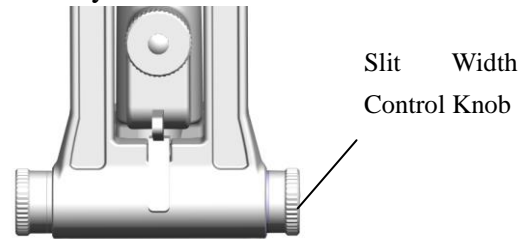
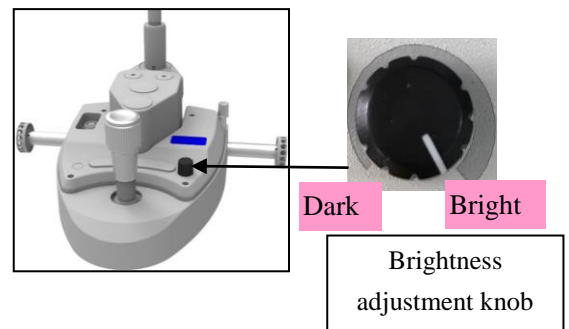
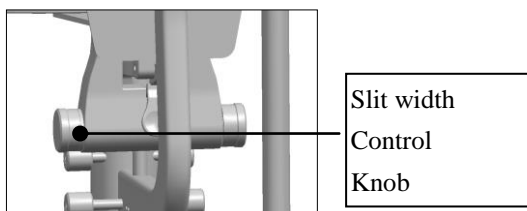

Figure 2.3.1
Figure3.1.2
Fig3.4.1
- Insert the focusing test rod (Fig. 2.1.7) and turn the slit width control knob (see Figure 2.3.1). The illumination spot should be observed on the black plane of the focusing test rod. The brightness change of the illumination should be
observed when rotate the brightness adjustment knob (see Figure 3.1.2)
5. The brightness change of the illumination should be observed when rotate the brightness adjustment knob (see Figure 3.1.2)
Turn on the main power switch and turn the brightness adjustment knob to the middle (see Figure 3.1.2). Adjust the slit width adjustment knob (see Figure 2.3.1) to make the slit width 2 to 3 mm.
1. Change the brightness of the slit image: Rotate the slit width control knob (see Figure 2.3.1) to change the slit width from 0mm to 12mm (when the width is adjusted to 14mm, the slit becomes circular), the knob has a scale to indicate roughly the width value (see Figure 3.4.1).